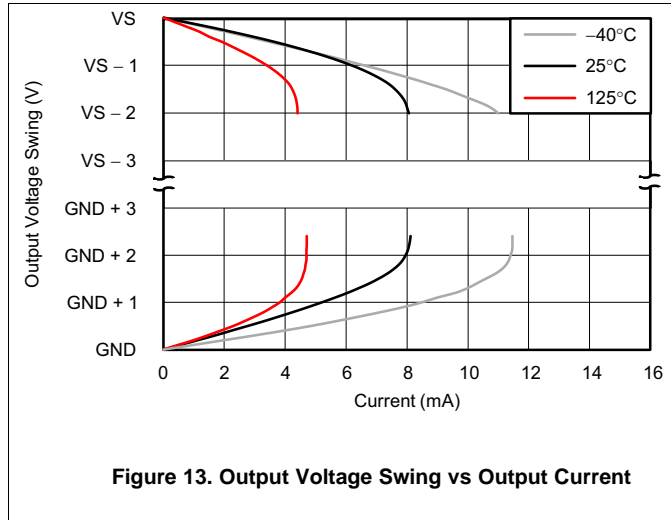

Figure 13. Output Voltage Swing vs Output Current
(7) See Typical Characteristic curve, *Output Voltage Swing vs Output Current* (Figure 13).